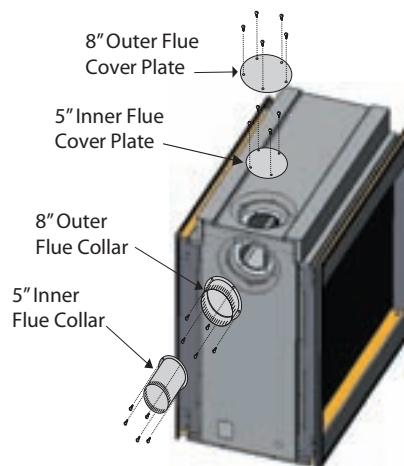

Figure 8. Flue cover and collar installation, *Rear Vented* fireplace.
3. Install the (removed) Rear flue cover and gasket material, to the Top vent outlet. Fasten the cover with included hardware, as illustrated **Figure 8**.
4. Install the (5" and 8") collars to the rear vent outlet using the included hardware, as illustrated **Figure 8**.